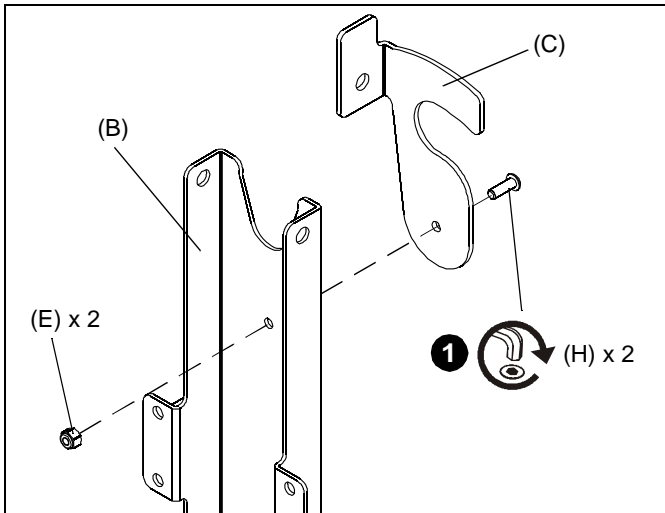

Figure 1
1. Attach one security latch (C) to each vertical bracket (B) using one 1/4-20 x 3/4" button head cap screw (H) and one 1/4-20 nylon lock nut (E) for each vertical bracket. (See Figure 1)